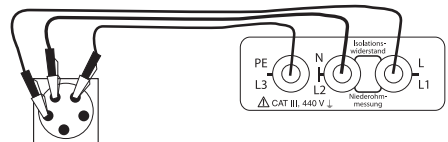
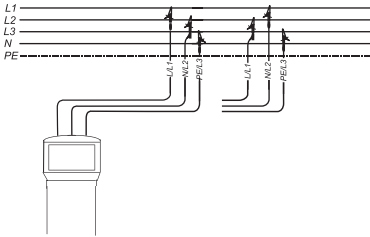

Figure 5.8.2: Connection for phase sequence test to a CEE socket
Figure 5.8.3: Connection for phase sequence test directly to the system
- Now connect the test leads to the UUT. For connection, please refer to Figure 5.8.2 or Figure 5.8.3